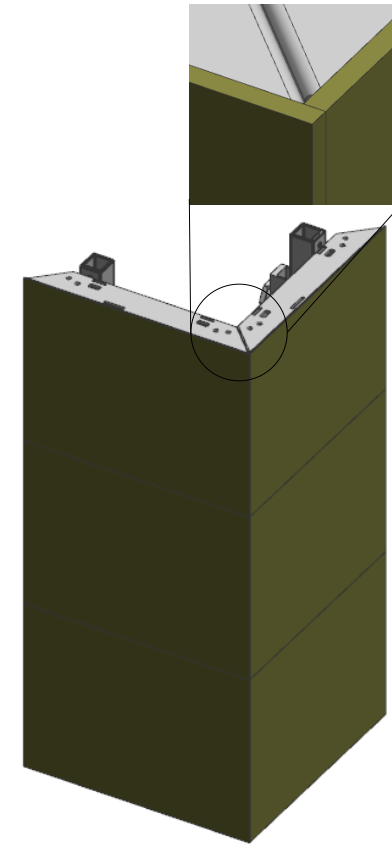

Fig 23. Overlapping Area of L-type Module
- During L-type installation, a cabinet protrudes to cover another one. This direction can be determined, noting the L Support mark while installing the Frame Kit. (Fig. 23)